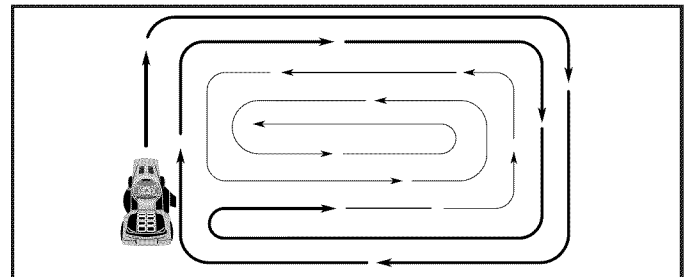

Fig. 11
- When mowing large areas, start by turning to the right so that clippings will discharge away from shrubs, fences, driveways, etc. After one or two rounds, mow in the opposite direction making left hand turns until finished (See Fig. 11).